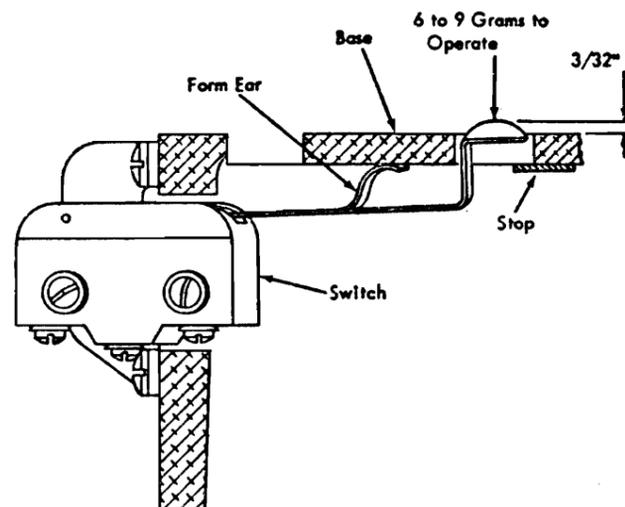

Figure 2. Card Lever Adjustment
**Card Lever and Switch Adjustment (Figure 2)**